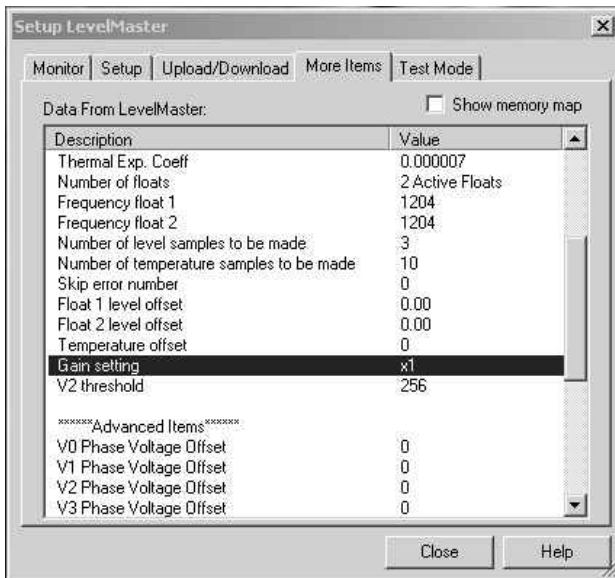

Figure 17. Additional Setup Items
- 1A** Click the More Items tab (see Figure 17). In this area, the user can view all of the information that concerns this particular LevelMaster. As the description and corresponding values are here, locate Gain Setting and double-click on it.